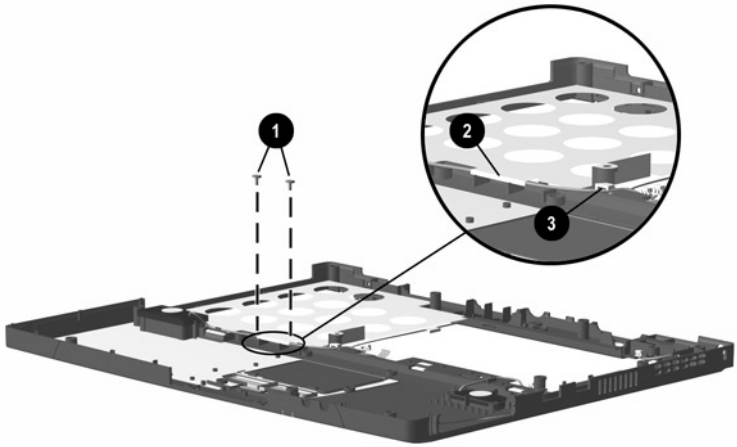

Figure 5-13. Routing the Speaker Cables
3. Remove the two M2.5 × 4.5 screws ❶ that secure the top cover shield to the top cover (Figure 5-13).
4. Remove the right speaker cable from the clips ❷ and ❸ in the top cover shield.